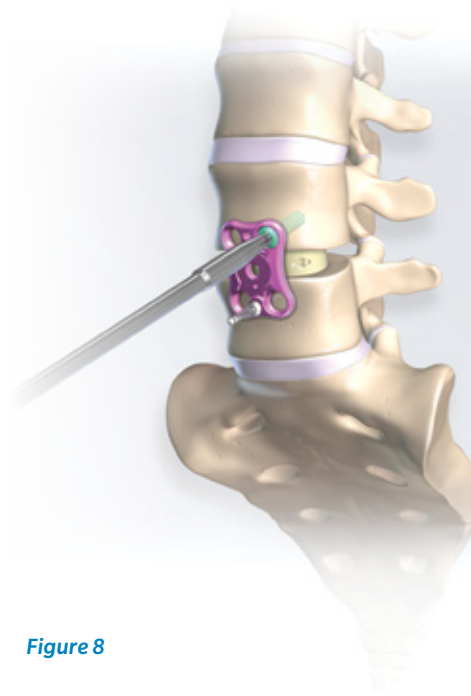

Figure 8
- Insert the screw into the prepared screw hole, leaving the screw slightly proud (**Figure 8**).